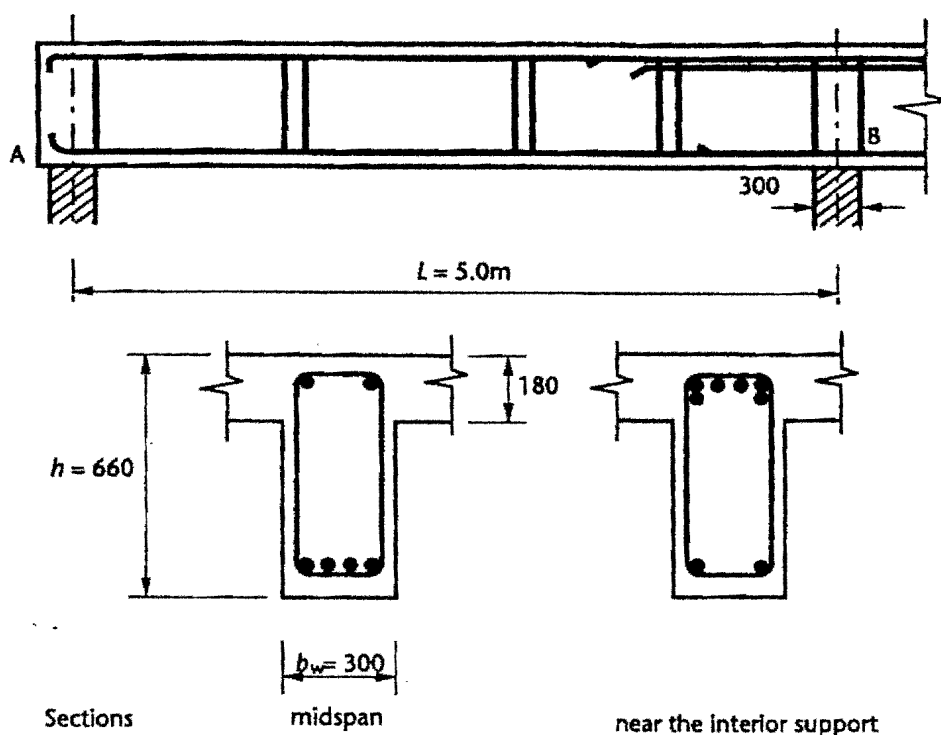

Figure 1
- b) The beam is 300 mm wide by 660 deep with three equal 5.0 m spans. In the transverse direction, the beams are at 4.0 m centres with a 180 mm thick slab, as shown in Figure 1.